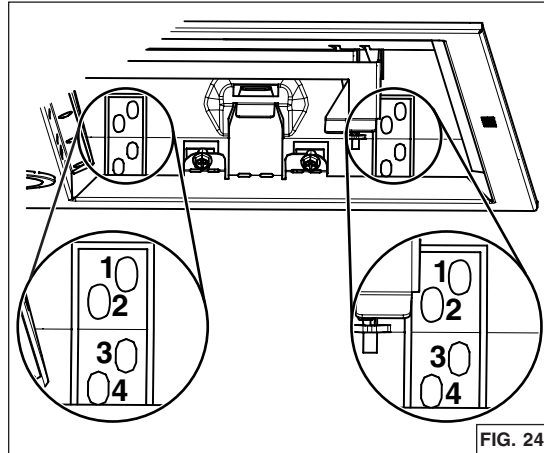

FIG. 24
- Lift the unit until contact is made between the unit flange and cabinet. Secure the unit to the cabinet using 4 no. 8 x 5/8" wood screws included in parts bag (2 screws per side). Use upper or lower holes (**1, 2, 3 or 4**) (FIG. 24).